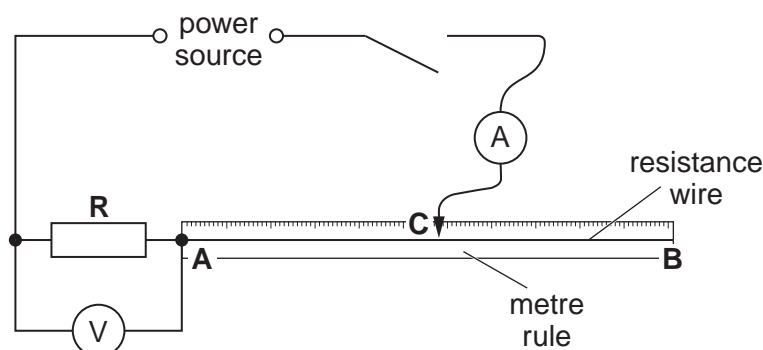

Fig. 3.1
- (iii) Ammeter capable of measuring the current in the circuit shown in Fig. 3.1 with a minimum precision of 0.02 A. Either a 0–1 A analogue meter or a digital meter would be suitable.
- (vii) A suitable terminal (e.g. crocodile clip) attached to the constantan wire at the zero end of the metre rule so that a connection can be made to the circuit shown in Fig. 3.1.
- (ix) Sufficient connecting leads to set up the circuit shown in Fig. 3.1.
1. The circuit is to be set up for the candidates as shown in Fig. 3.1.
2. The resistor can be made from an appropriate length of the constantan wire i.e. 50 cm of 26 swg or 34 cm of 28 swg or 24 cm of 30 swg. It must be labelled 'R'. The resistor must have suitable terminals so that connections can be made to the voltmeter and resistance wire as shown in Fig. 3.1.
Check that the circuit is set up as shown in Fig. 3.1.